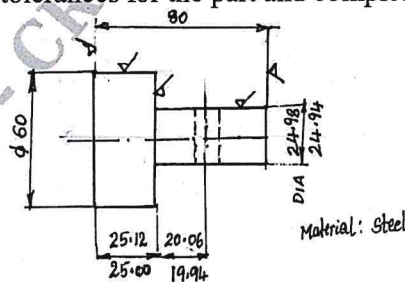

Fig.Q5(b)
b. Identify functional and non functional dimensions for the component shown in Fig.Q5(b). Incorporate geometric tolerances for the part and complete the drawing.